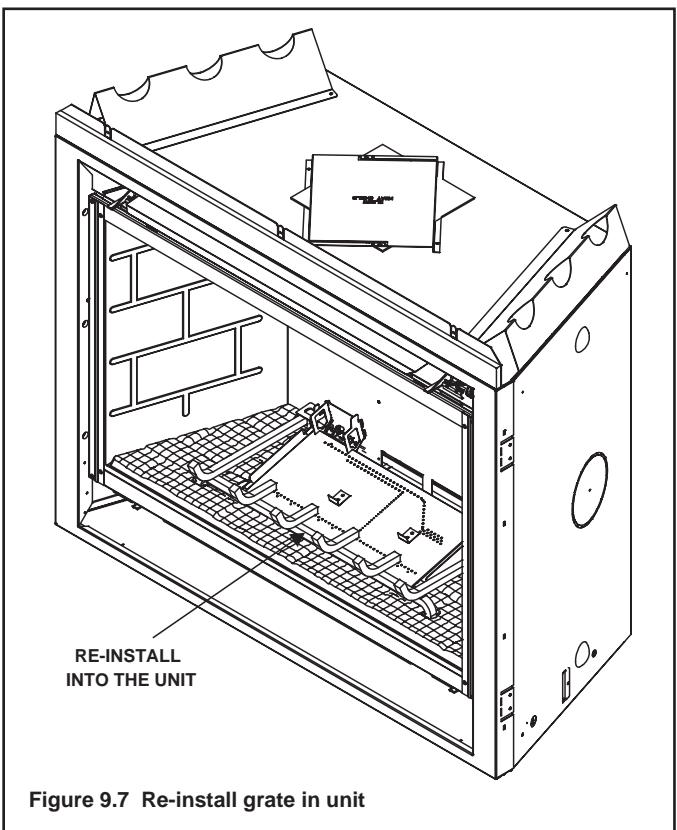

Figure 9.7 Re-install grate in unit
4. Reinstall grate into unit (see Figure 9.7).